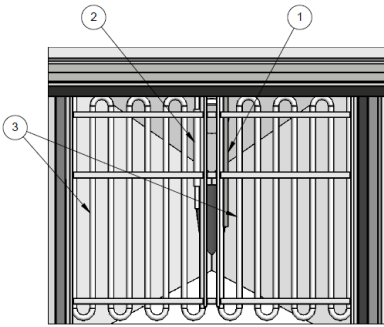

Figure 2.8.1 - Frypot view SELV14
- √ Ensure that high temperature limit probe(s), item 2 in figures 2.8.1 & 2.8.2 below are in place and secure as shown below. Ensure the temperature control probe(s) (item 1) is positioned properly as shown.
- √ Ensure the heating elements (3) are free to move up out of the frypot without hitting any structures or other items above the fryer.